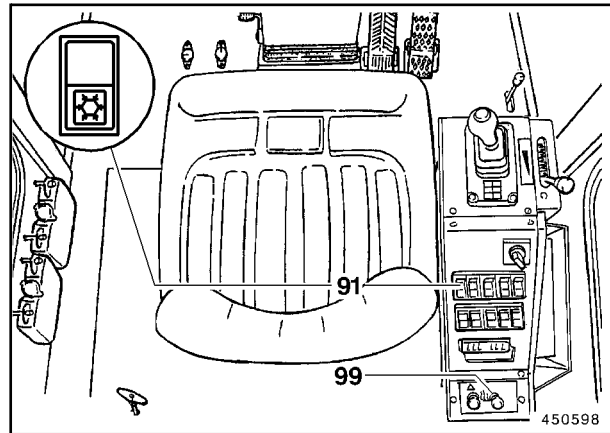

Fig. 1
- Switch off toggle switch (91, Fig. 1) by pressing the switch surface with no symbol.